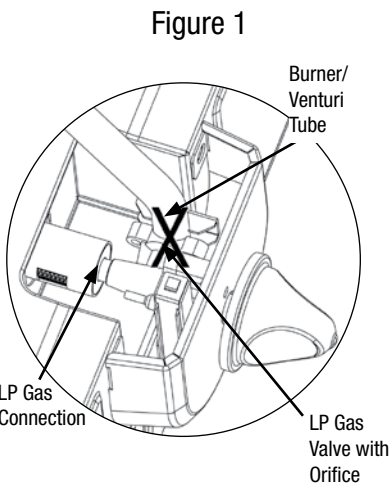

Figure 1
- Please refer to diagram for proper installation (Figure 1).
- Spoon several drops of solution, or use a squirt bottle, at all "X" locations (Figures 1, 3 and 4).